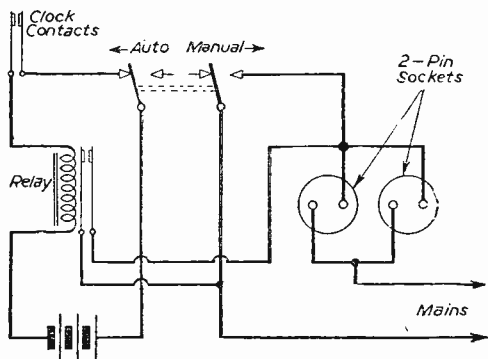
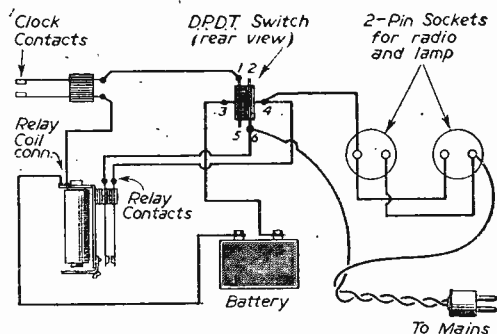

Fig. 4.—Wiring diagram of the mains switching.
Fig. 3.—Complete wiring diagram of the installation.
Plastic-covered flex is suggested for all wiring. Single leads can be made from flex which has been untwisted. If you are electrically minded the schematic diagram (Fig. 4) should enable you to wire up the unit without difficulty. If not, the point-to-point wiring diagram (Fig. 3) will help you. Note that for the clock contacts, relay contacts and switch contacts, wires will have to be soldered to solder tags. The other connections are as for
2. Looking at the switch from the back (see Fig. 3), join tag one to the vacant contact on the top of the box. Join tag three to the vacant terminal on the battery.